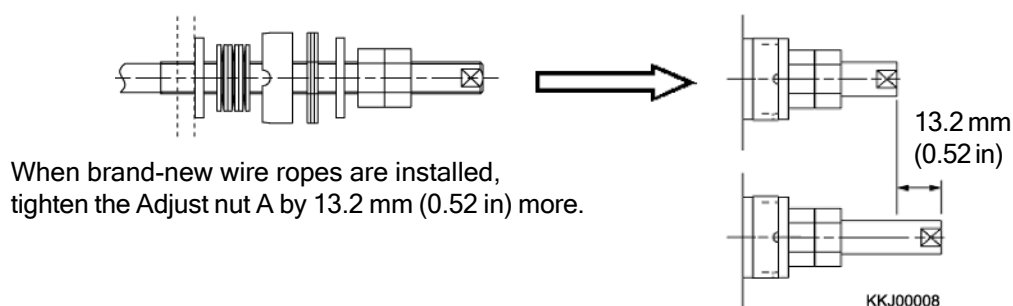

Fig. 2-27 Tighten the adjust nut
- 4) Tighten the Adjust nut A until the washers touch the collar as shown in the fig. 2-27.